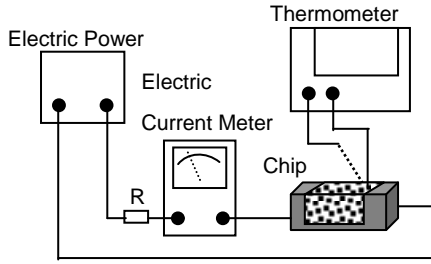

Fig. 5.3.3-1
- d. Definition of Rated Current ( $I_r$ ):  $I_r$  is direct electric current as chip surface temperature raises just  $20^{\circ}\text{C}$ . against chip initial surface temperature( $T_a$ ). (see Fig. 5.3.3-2):